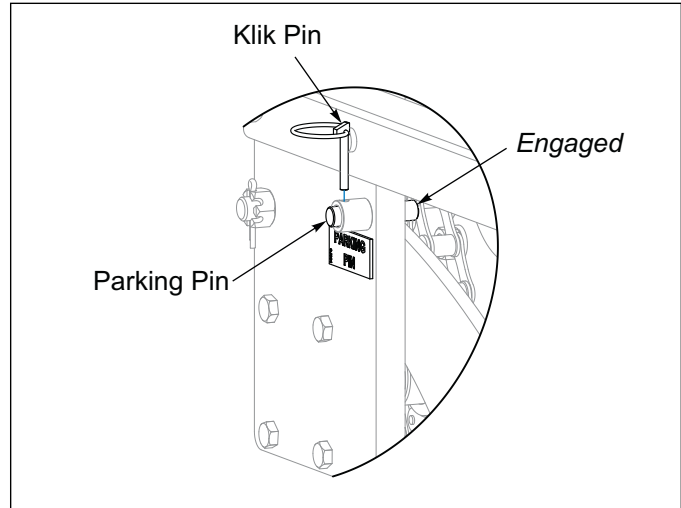

**Figure 2-1: SMV Mount**
4. 8FT and 10FT Seeders, install SMV Support to Seed Box Center Bracket with 3/8-16 x 1-1/2 Bolts and Locknuts. **See Figure 2-1.**